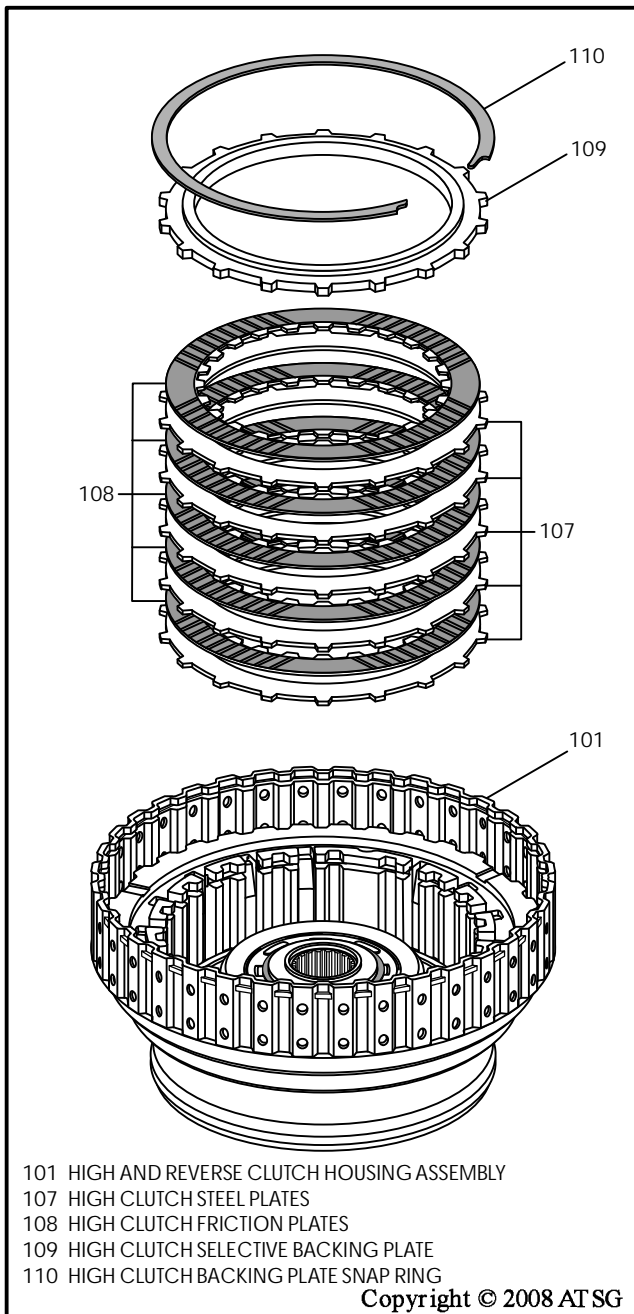

Figure 139
13. Install the high clutch plates beginning with a steel plate and alternating with friction plates until you have installed five of each, as shown in Figure 139.
14. Install the selective high clutch backing plate, as shown in Figure 139.
15. Install the high clutch backing plate snap ring, as shown in Figure 139.